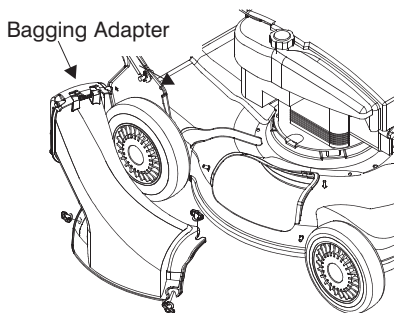

Figure 11
2. Replace with bagging adapter (see Figure 11). Attach using wing nuts. Be sure that inner lip of attachment goes under the edge of the deck.